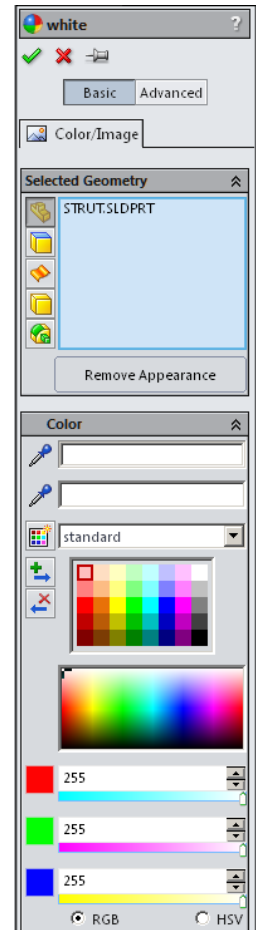

Fig. 11
Step 3. In the Appearances Property Manager click OK , Fig. 11.